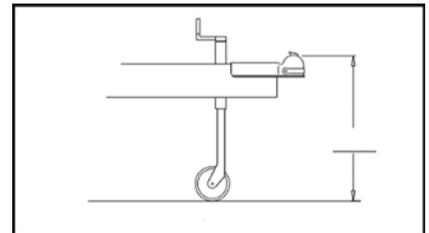

Figure 1: On a level surface, measure the height of your trailer coupler to ground.
- Line up tow vehicle and trailer on level pavement, in straight-ahead position, uncoupled. Level the trailer and measure and record the distance from the ground to the top of the coupler (see Figure 1).
- NOTE: The ball height should be greater than coupler height by approximately 3/4" to 1" (see Figure 1) to compensate for vehicle squat. For vehicles with air springs, air shocks or an automatic leveling system, check vehicle owner's manual. Unless otherwise specified make sure you adjust the ball mount and do the trailer set up with the trailer and vehicle loaded as they will be when towing. Raised balls usually have reduced load ratings. Ball rating MUST equal or exceed trailer GVWR.
- Rivet (10) and 7 spacer washers (9) are supplied in order to gain correct downward angle of spring bars. For an initial fitment, try 4 spacer washers for top mounted couplers and 3 spacer washers for bottom mounted couplers. Insert rivet (10) and depending on angle or slope of bars that must be gained, use the least amount of washers (9) necessary in order to establish correct angle. (See Figures 1, 2, and 3).
- The rivet (10) and its accompanying washers (9) are placed in the 1/2" hole between the "U" on ball mount (1) to acquire desired angle of spring bar (5). Once spring bar (5) angle has been determined, insert top bolt (6) with serrated washer (7). Install second serrated washer (7) and nut (8) to secure unit in correct position. Before tightening bolts, lock (tighten) ball mount set screw. Tighten the 3/4" top bolt (6) to 260 ft. lbs. torque once head angle is set. Secure lower bolt (6) to 260 ft. lbs. torque. After first day of towing, check ball mount set screw for tightness.